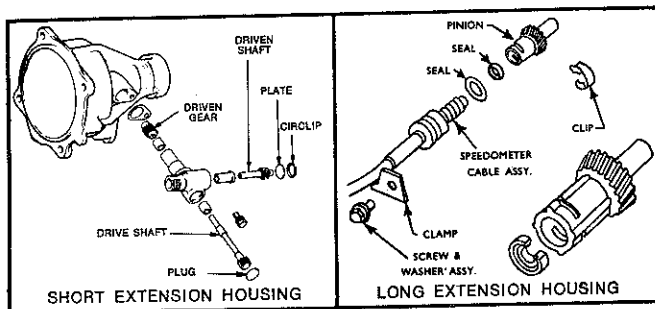

Fig. 14—Speedometer drive pinion—dis-assembled view
- (1) The speedometer drive pinion assembly is retained in the extension housing with a bolt (Fig. 14).
- (2) Remove drive shaft driven gear retaining pin and remove gear.
- (3) Remove driven shaft circlip and plate, then remove shaft from housing.
- (4) Remove drive shaft end plug and remove shaft assembly.
- (5) Reassemble by reversing disassembly procedure.
- (6) Install speedometer drive to transmission and tighten retaining bolt securely.
- (1) The speedometer drive pinion assembly is retained in the extension housing with a clamp and screw (Fig. 14).
- (1) Raise the rear of the vehicle to prevent oil loss when the extension housing is removed.
- (2) Disconnect propeller shaft at rear universal joint. Carefully pull shaft assembly out of the extension housing.
- (3) Remove speedometer pinion assembly (Refer Fig. 14).
- (4) Remove bolts securing extension housing to the crossmember insulator. Raise transmission slightly with service jack then remove centre crossmember and support assembly.
- (5) Remove extension housing to transmission bolts.